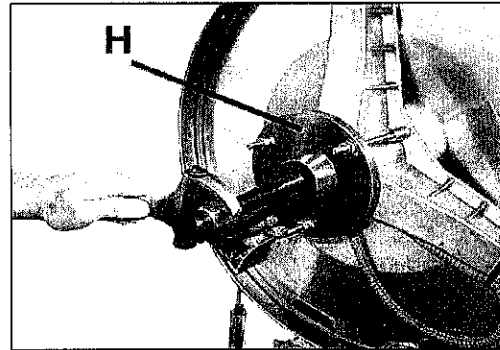

fig.8
- Fix H tool, to protect the shaft with the protector which accompanies tool H and screw with the help of a wrench to push the drum forward. (fig. 8).